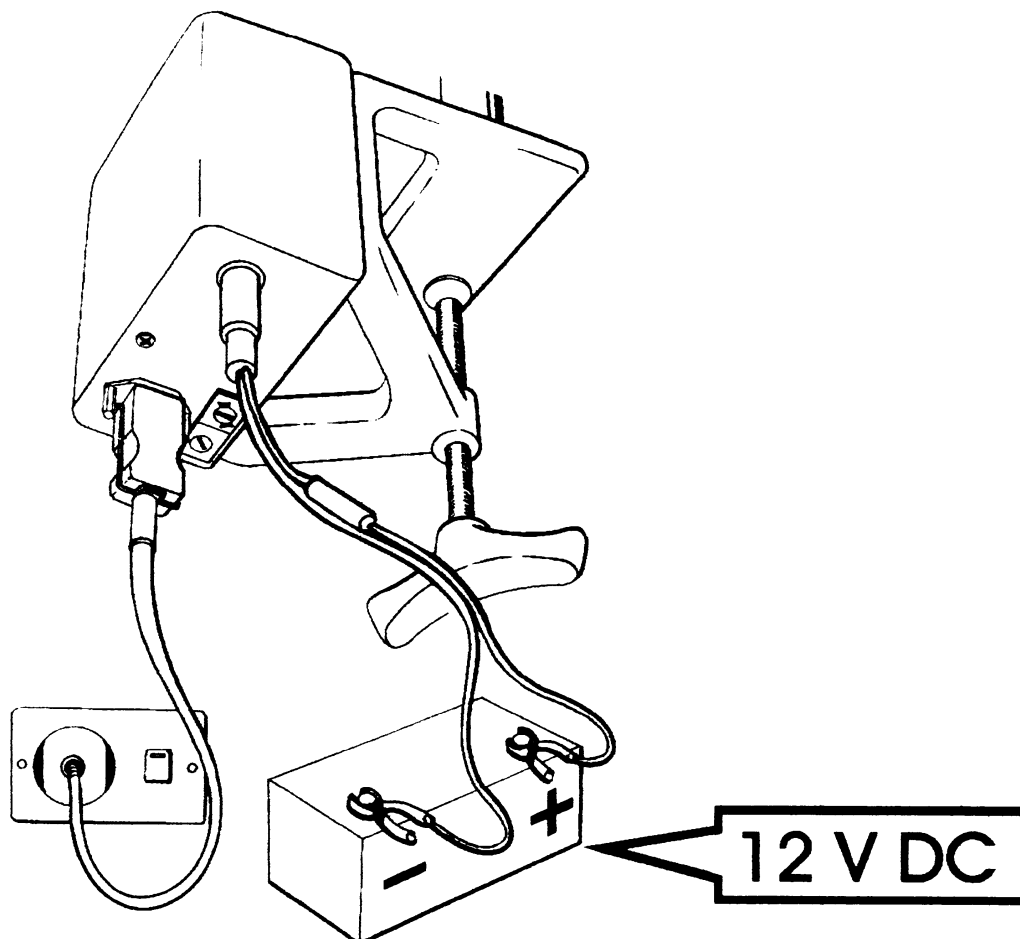

Figure 7 Connecting the power supply
8. Plug the mains power cable into the power supply and into a mains power socket. International safety standards do not allow the use of an extension cord (see figure 7).
2. Connect the cable to the 12-volt connector on the underside of the power supply (see figure 7).
3. Connect the red battery clip to the positive battery terminal, and the black clip to the negative battery terminal. The power supply will not operate if the terminals are reversed (see figure 7).